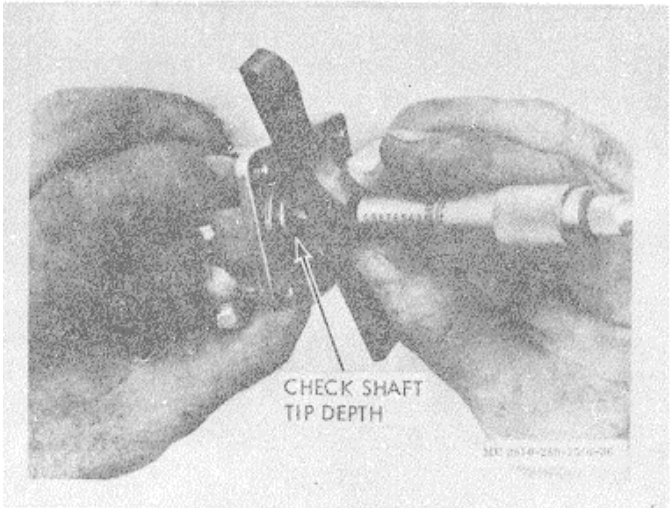
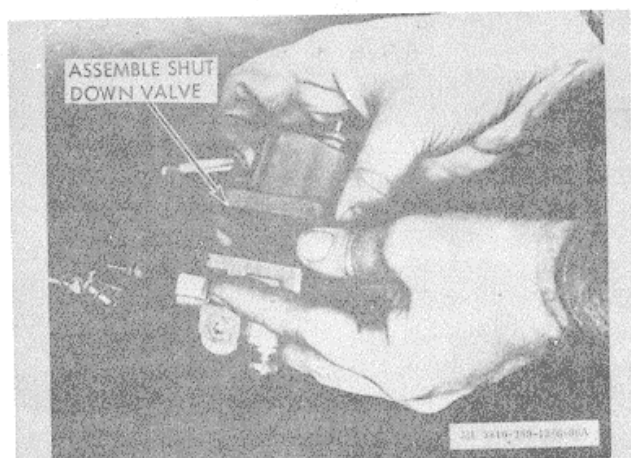

Figure 3-37. Shaft tip depth check.
Figure 3-38. Valve assembly.
(2) Screw shaft into housing until it reaches bottom of its bore. Use depth micrometer set at 0.118 inch and check distance from face of valve housing to tip of shaft. If necessary, screw shaft out until it is 0.118 inch below housing face. Press on knob until it contacts valve housing; thus it will act as a stop (fig. 3-37).
(3) Seat valve into valve housing.
(4) Apply lubricant to housing O-ring and seat in groove.
(5) Drop spring washer on valve with concave side up and piloted around valve bore (fig. 3-38).